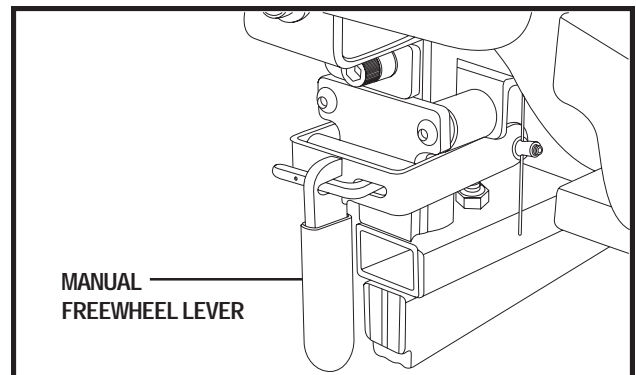

Figure 11. Drive Engaged (Single Lever)
2. Push the manual freewheel lever down to engage the drive motors. See figure 11.